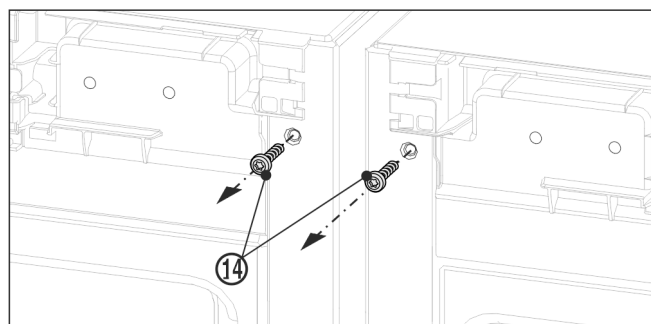

Fig. 11
- ▶ Before fitting the top bracket remove both earthing screws Fig. 11 (14).